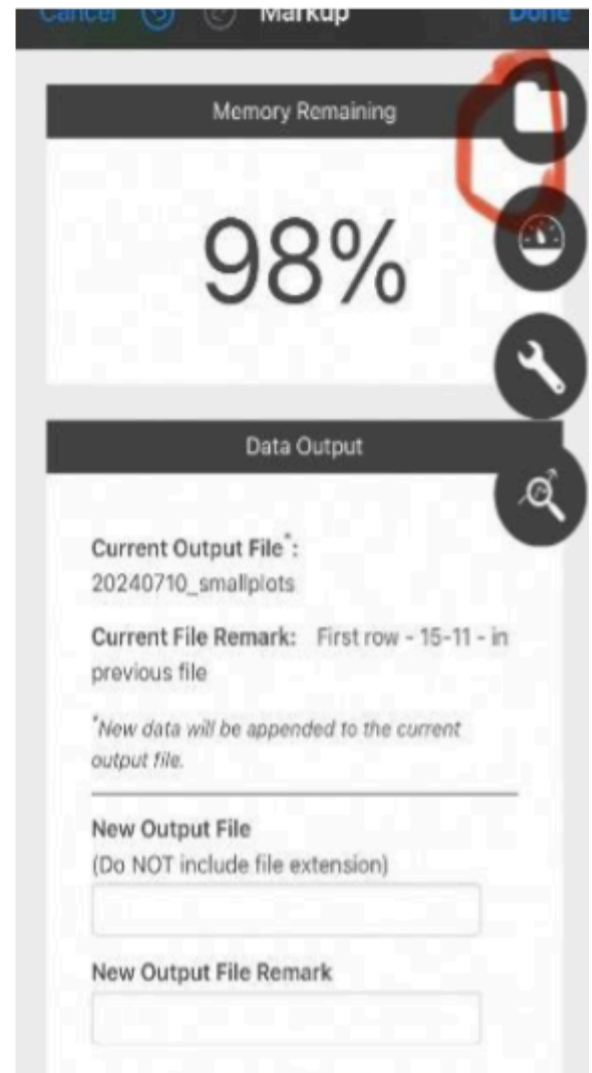

Figure 3: Output file setting
8. To update the output file in which measurements taken will be stored in, press the button on the upper right and select the file icon (Figure 3).